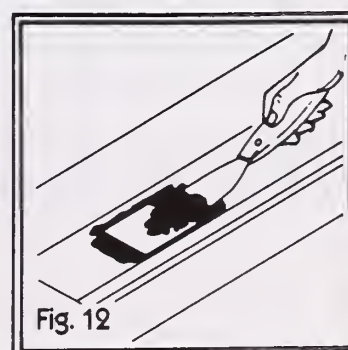

Fig. 12
5. Apply a thin layer of roofing cement over the leak area. Place the canvas patch over the cement and press it firmly. Now apply a second heavy coat of cement, fully covering the patch (fig. 12).